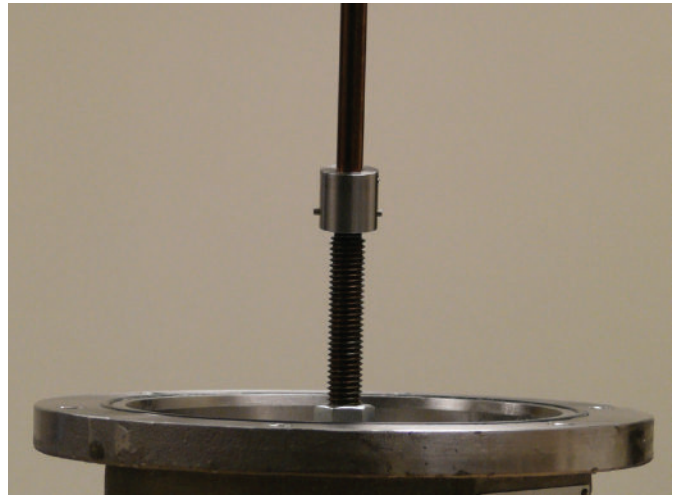

Figure 9-35 Install Indicator Gland
27. Install indicator gland into housing cover (Item 28) and secure with retaining ring (Item 32). (Figure 9-35)